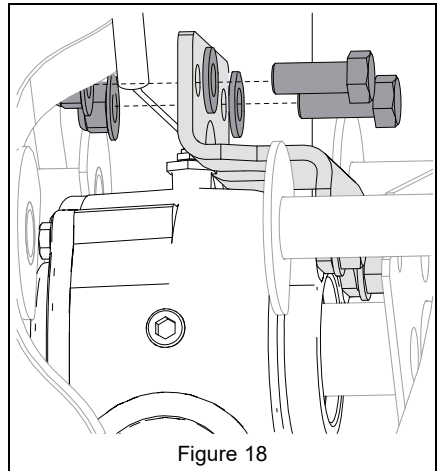

Figure 18
7. Reinstall gearcase support bracket using original hardware. See Figure 18.